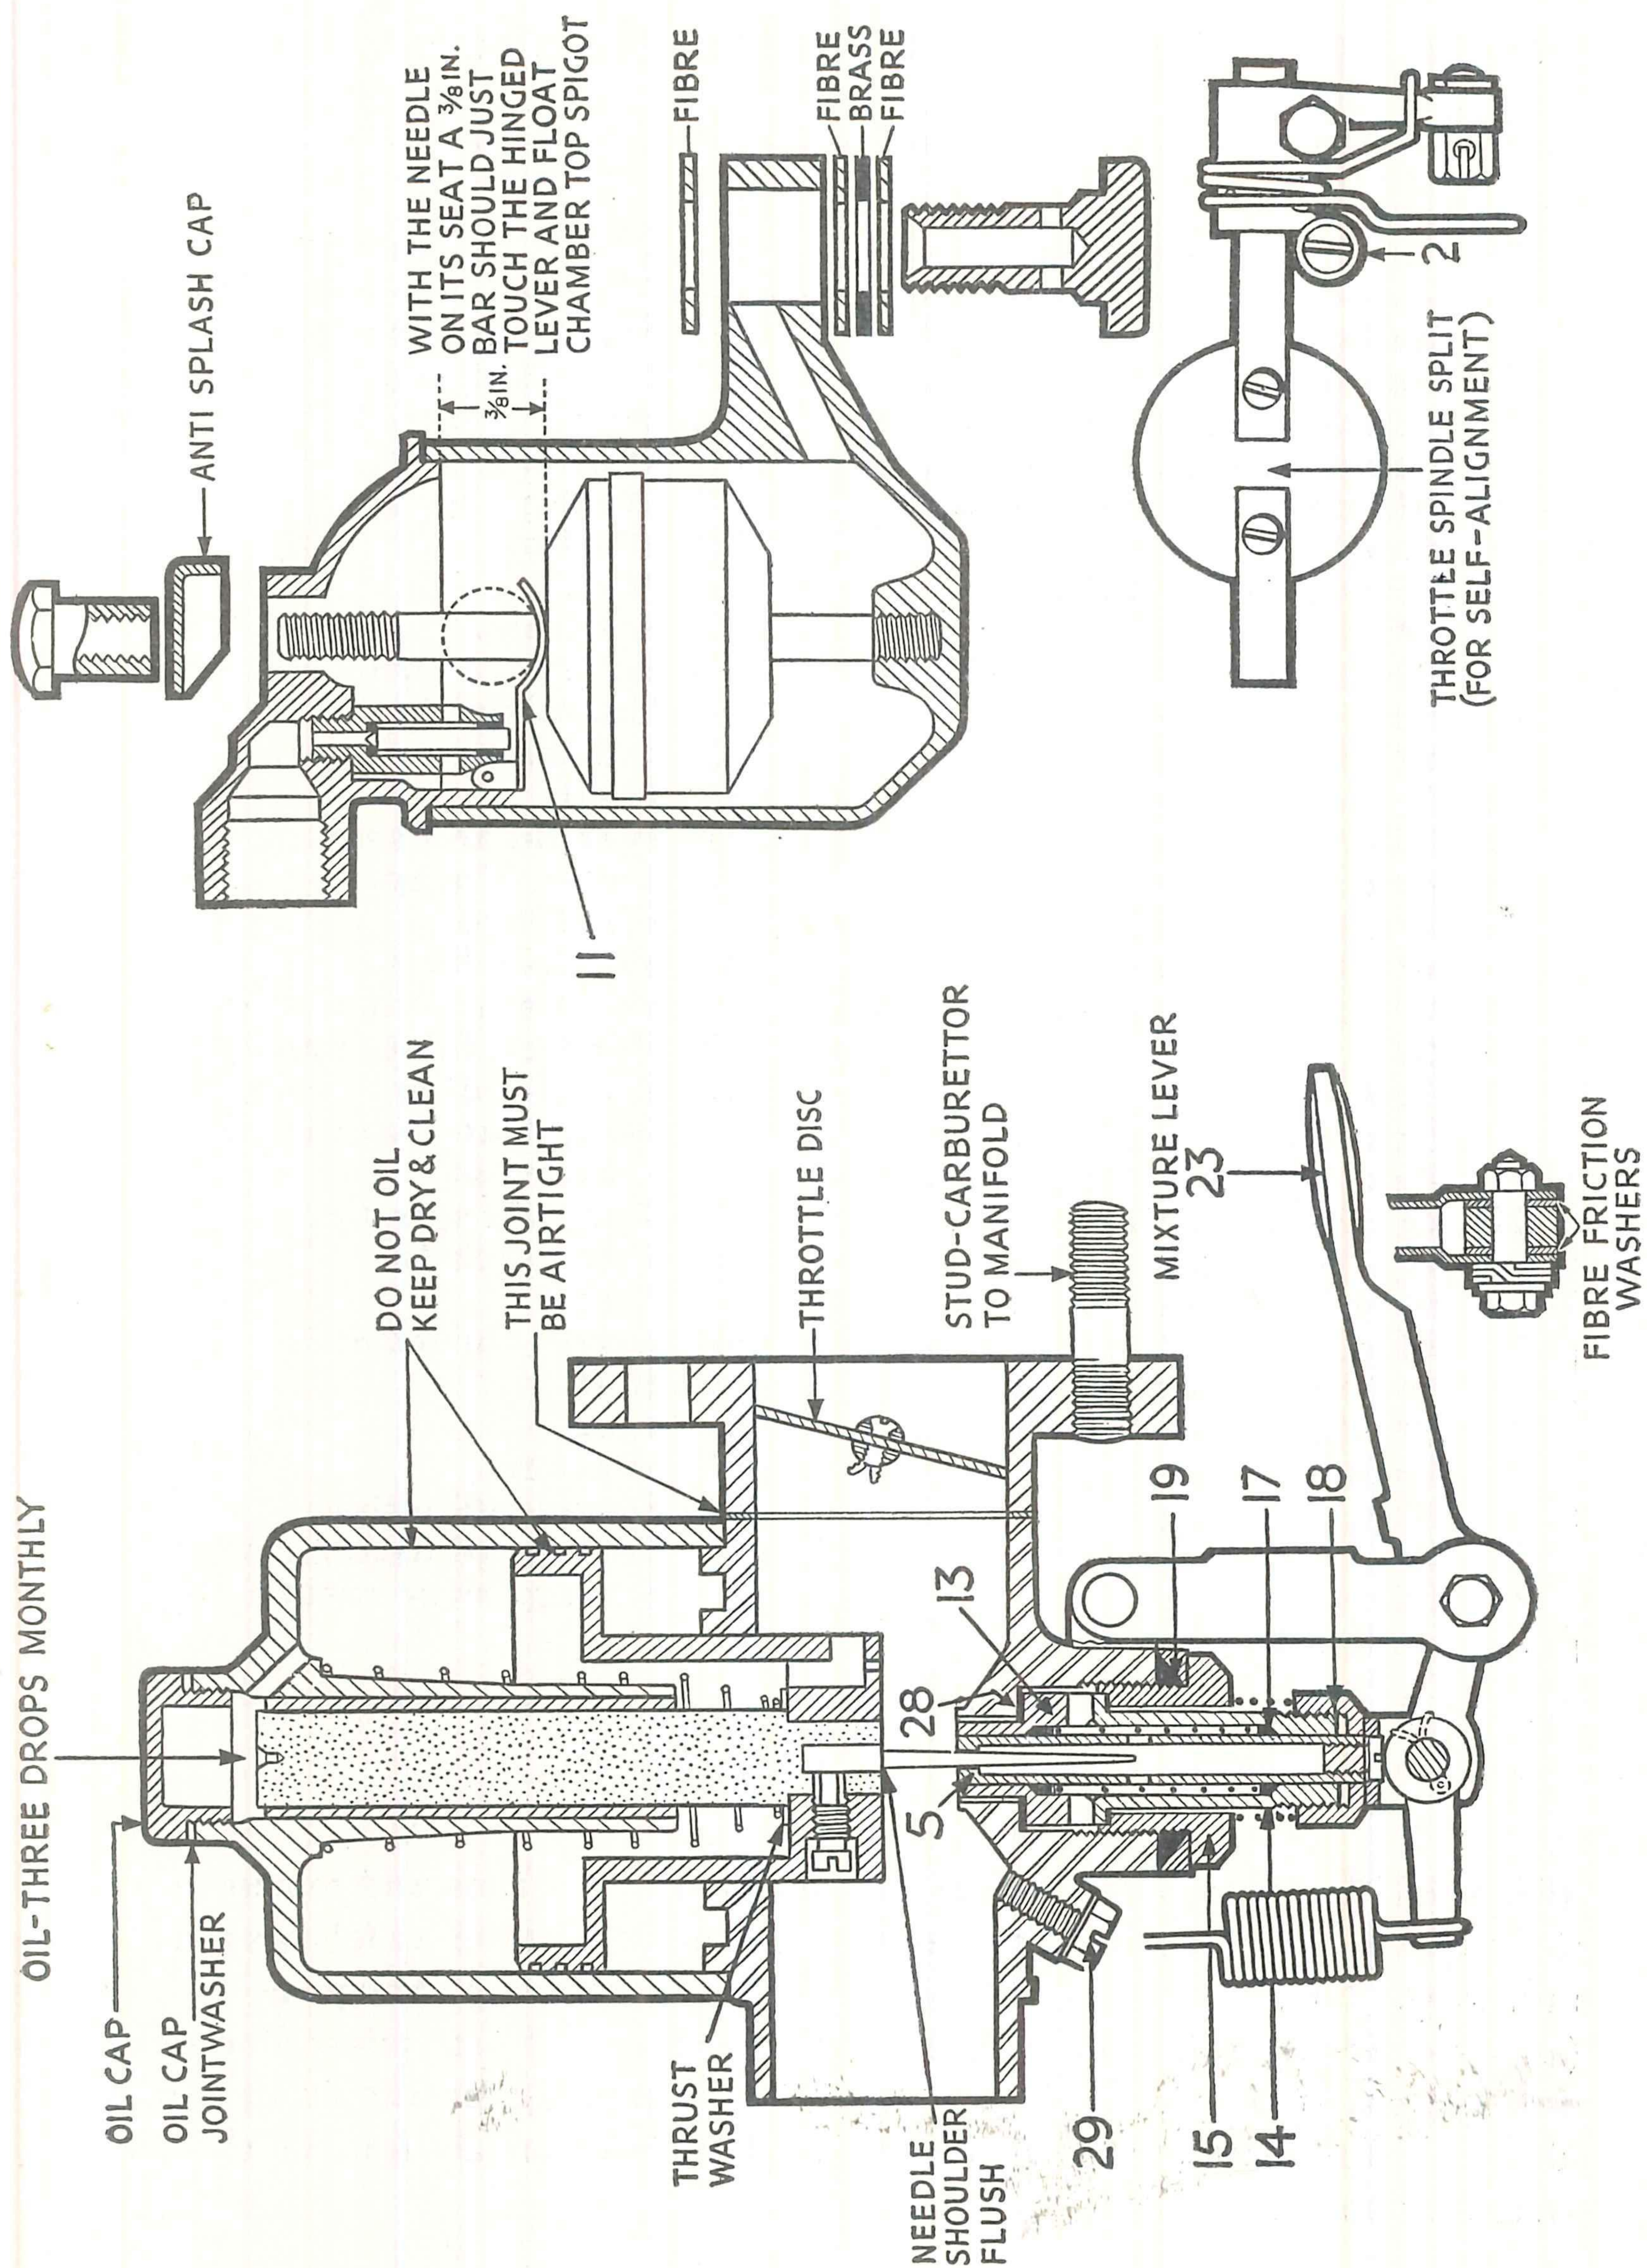

Fig. 64. S.U. CARBURETTER (DIAGRAM)
**All references to numbers in the script apply to Fig. 64 only.*